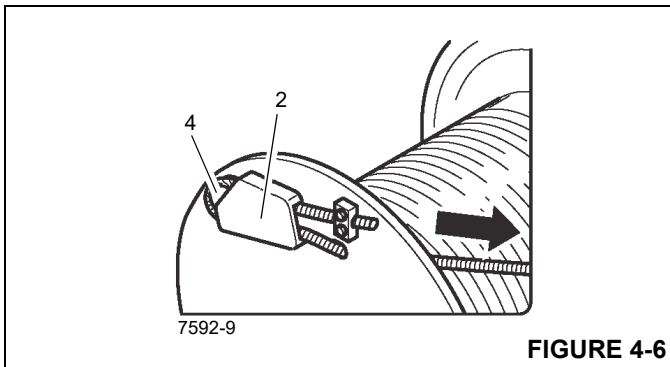

FIGURE 4-6
8. Push the cable back until cable wedge (4) (Figure 4-6) is fully in the pouch (2) (Figure 4-6).
9. Ensure that the cable wedge (4) (Figure 4-6) loop and cable end do not protrude beyond the flanged wheel. This will prevent damage.